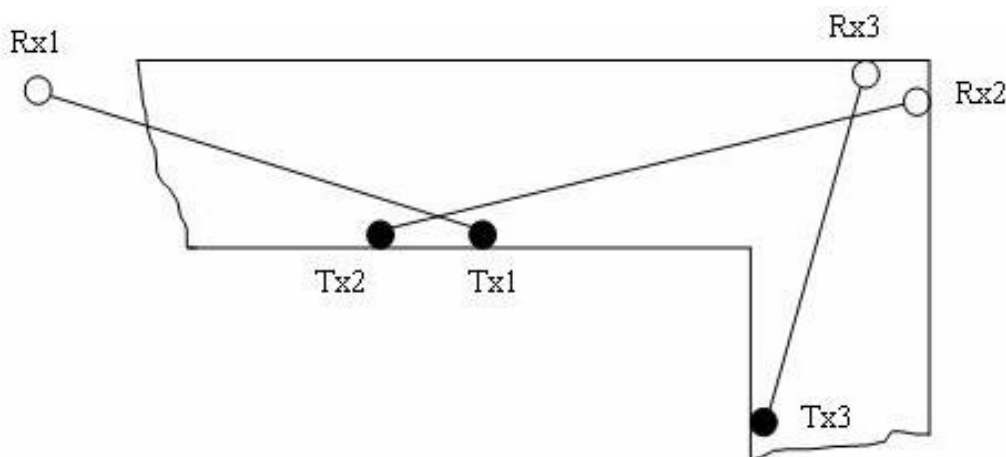

Fig.8.1
8.2.1. Mark the perimeter for the places where the supports are mounted. To increase the protected area, it is necessary to provide the overlapping of the sectors (see fig.8.1. and 8.2). The overlapping is necessary to exclude the possibility of the sector's overcoming under or above Tx (Rx) near from the support.